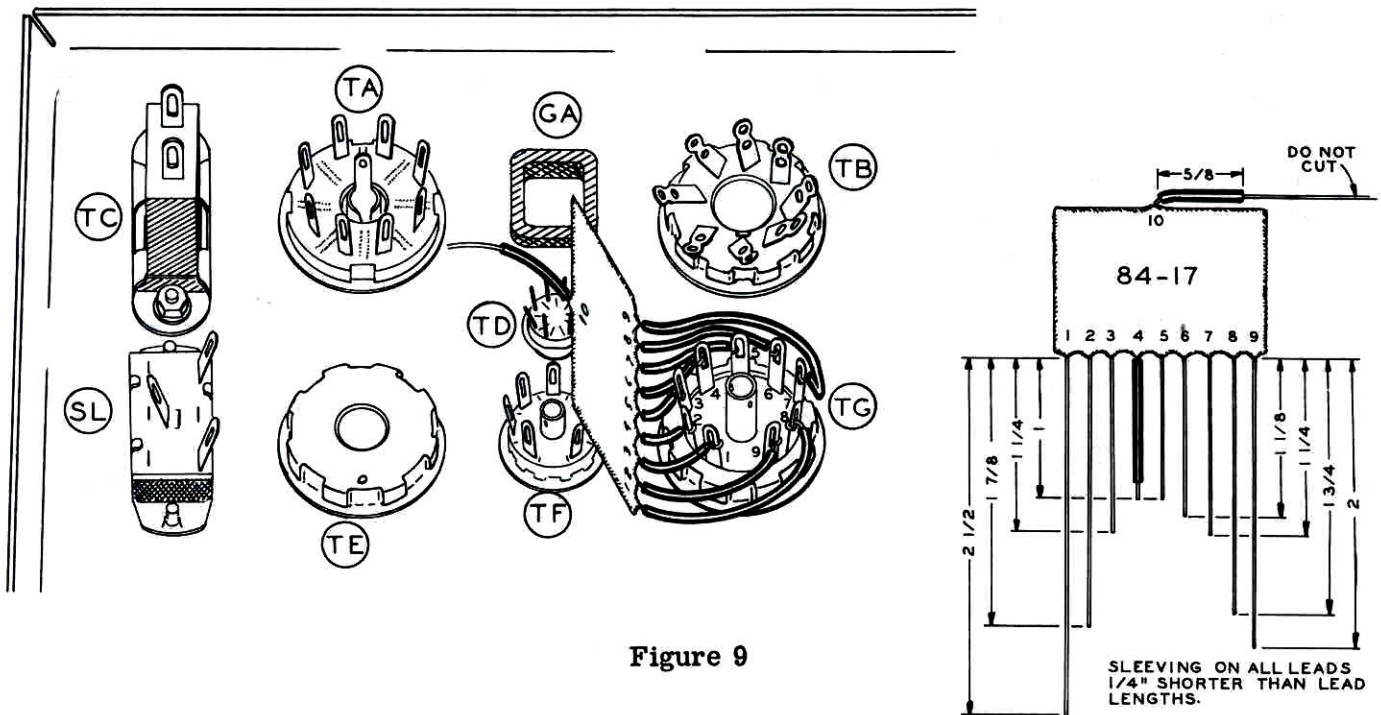

Figure 9
- ( ) Identify the two P.E.C.'s (#84-17 and #84-18) and trim the leads to the lengths indicated. DO NOT cut the common leads. Cover each lead with sleeving, as shown in Figures 9 and 10.